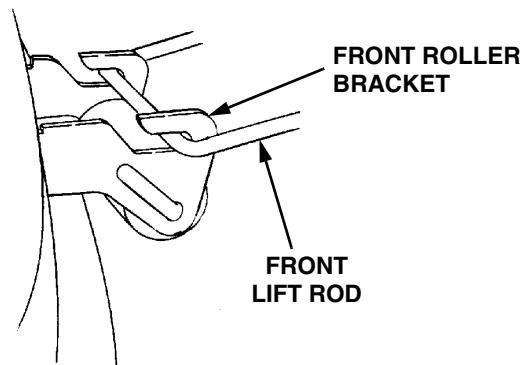

Figure 32
- While holding the front lift rod up, slide the mower deck forward until the rod aligns with both front roller bracket slots. Lower the lift rod into the front roller bracket slots and slide the deck rearward to engage the lift rod fully forward in the slots of the deck front roller bracket (See Figure 32).